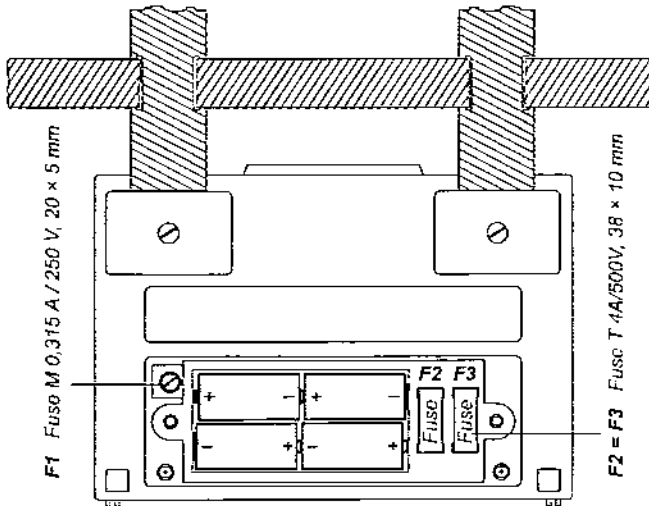

Fig. 49. Correct polarity of inserted batteries
- Insert batteries correctly, otherwise test instrument will not operate and batteries may be discharged, see figure 49. for correct battery polarity.
There are three fuses under battery compartment cover (see the figure 49.).